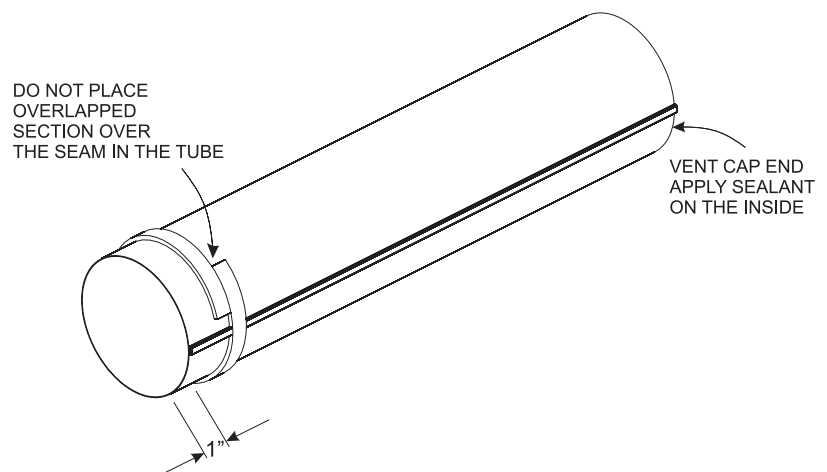

Figure 54
12. Seal the 4" (102 mm) diameter flue outlet tube. Follow instructions and diagram. **See Figure 54.**
If the air inlet and flue outlet tubes are to be connected directly to the unit (no rigid venting system is being used), then the gasket provided must be used to seal the 4" (102 mm) flue outlet tube. Peel the paper off the self-adhesive gasket and then wrap it around the end of the tube (if tube was cut, it is recommended to use cut end) as shown in Figure 54. Pull the gasket tight at all times while wrapping it around tube. The gasket ends should align, to form a complete seal. The overlapped section should NOT come in contact with the seam in the tube. Apply high temperature sealant to the opposite end of the tube (on the inside of the tube). The end with the gasket will attach to the back of the unit. Continue with Step 13.